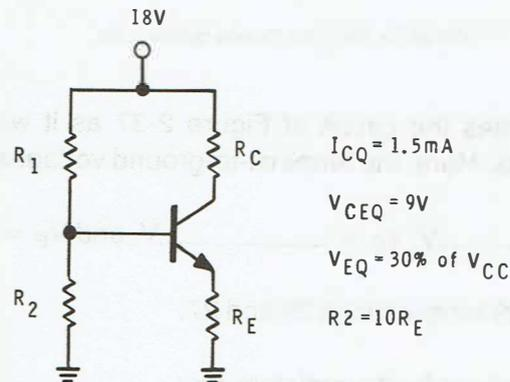
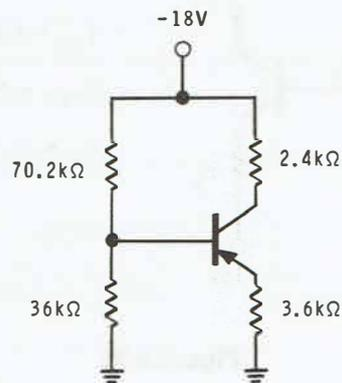
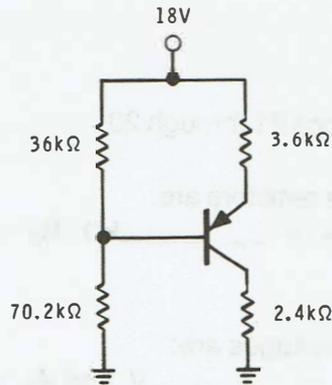

Figure 2-36
Figure 2-37
Figure 2-38
Refer to Figure 2-36 for questions 21 through 23.
Figure 2-37 illustrates the complementary PNP circuit for the circuit designed in question 21. Here, the terminal to ground voltages are:
Figure 2-38 illustrates the circuit of Figure 2-37 as it would be drawn on most schematic diagrams. Here, the terminal-to-ground voltages are:
24. The only differences between the NPN circuit in Figure 2-36 and the complementary PNP circuit in Figure 2-37 are the current directions, and voltage polarities.
25. The circuit in Figure 2-38 is identical to the circuit in Figure 2-37. However, it is drawn differently. In this case the circuit is drawn upside down, with the reference (ground) terminal switched. Here, note that: